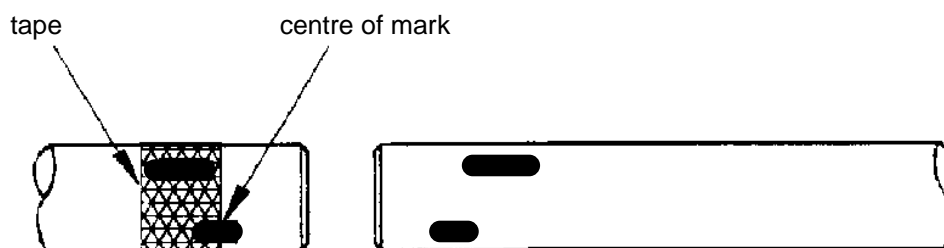

Figure 3 - Tube Marking and Set-Up
- Step 5. For unions, wrap masking tape once around one of the tube ends halfway over the smaller tube insertion mark (see Figure 3). Tubes receiving shaped or adapter fittings do not require taping since the fittings have an inner diameter tube stop shoulder.